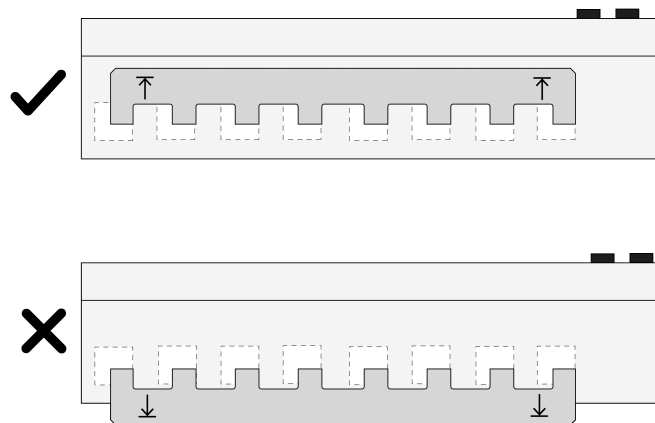

Figure 6: Installing the phase busbar
- Align the phase busbar using the printed arrows and plug it into the device connection terminals (see figure 6).